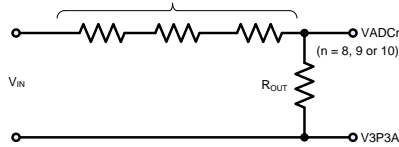
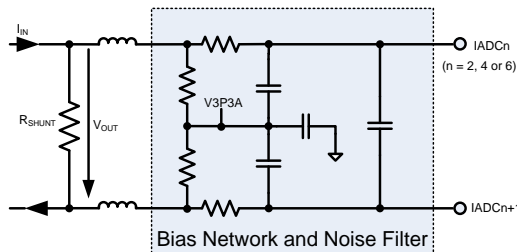
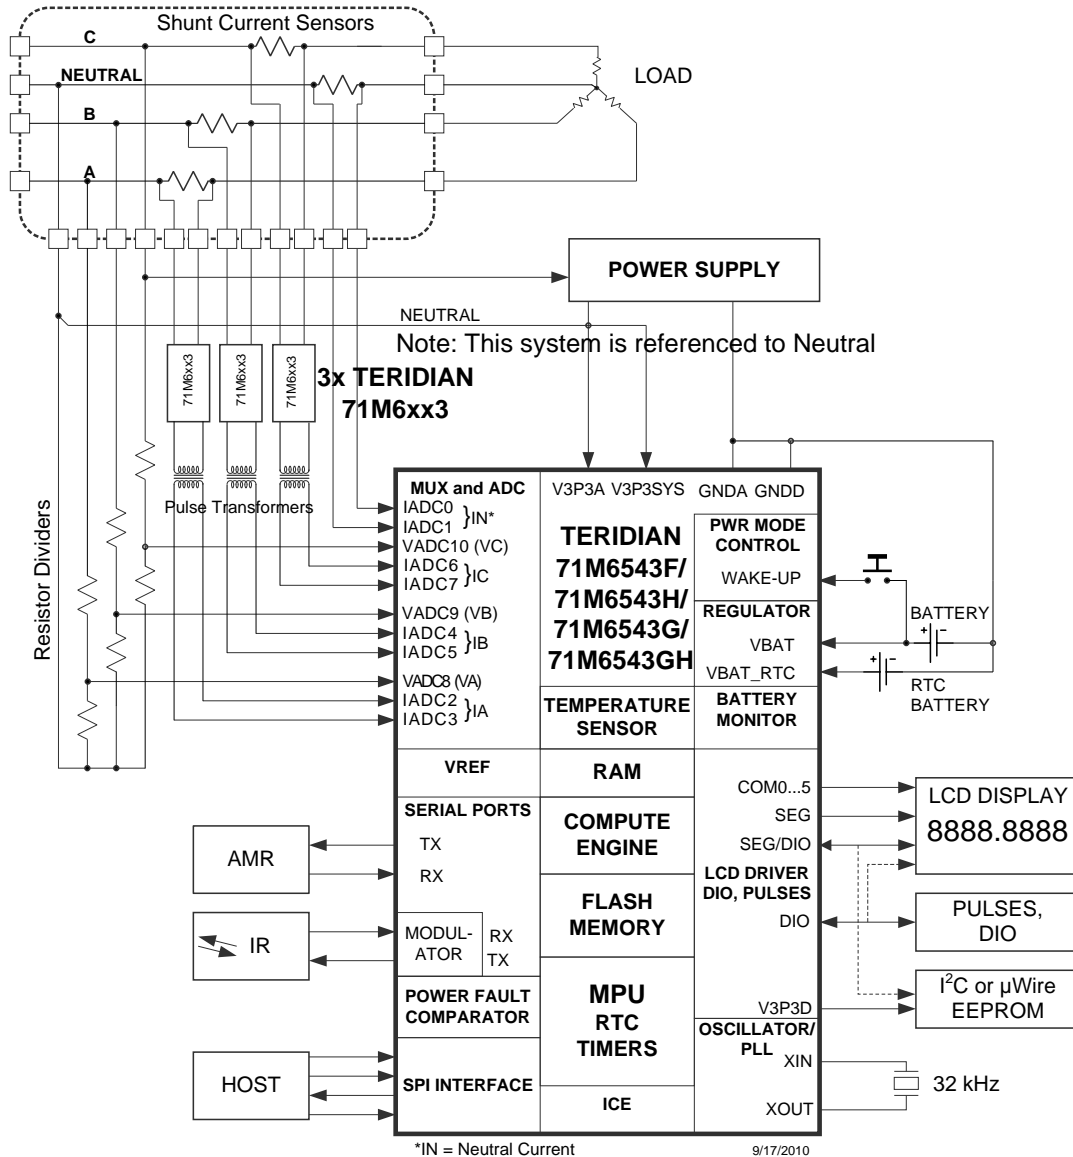
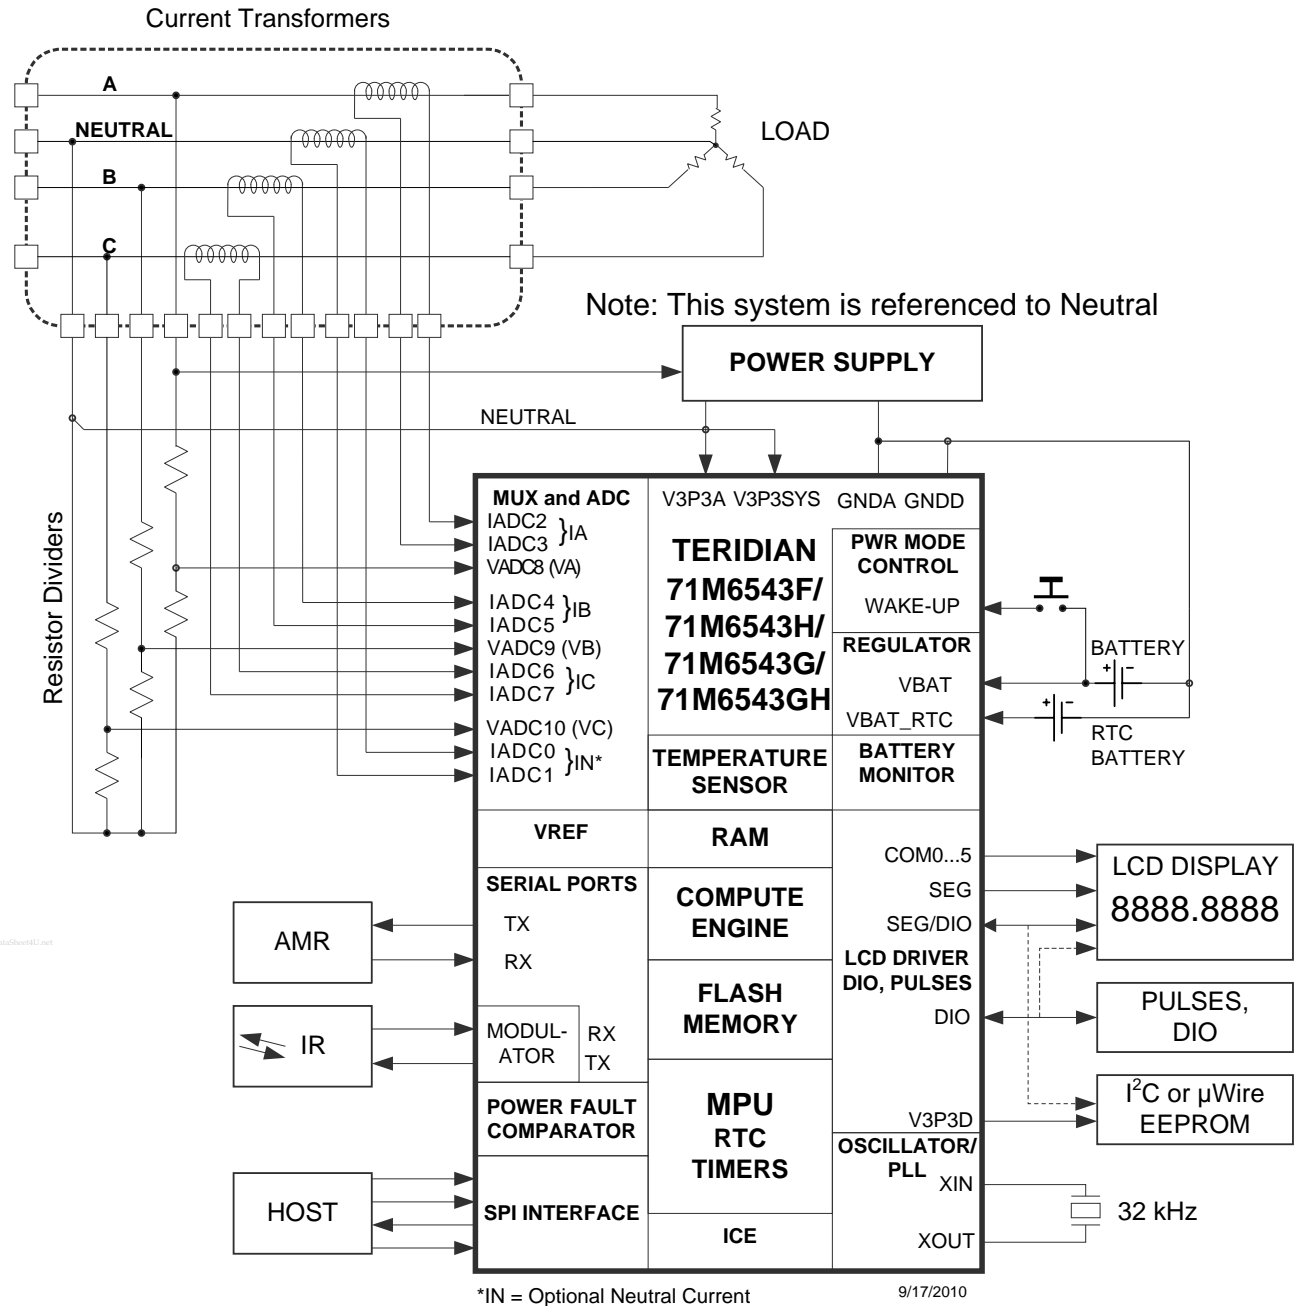

Figure 27: Resistive Voltage Divider (Voltage Sensing)
Figure 30: Differential Resistive Shunt Connections (Current Sensing)
Figure 31: System Using Three-Remotes and One-Local (Neutral) Sensor
Figure 32. System Using Current Transformers
Figure 27 through Figure 30 show voltage-sensing resistive dividers, current-sensing current transformers (CTs) and current-sensing resistive shunts and how they are connected to the voltage and current inputs of the 71M6543. All input signals to the 71M6543 sensor inputs are voltage signals providing a scaled representation of either a sensed voltage or current.
Figure 31 shows a typical connection for current shunt sensors; using the 71M6xx3 (polyphase) isolated sensors. Note that one shunt current sensor is connected without isolation, which is the neutral current sensor in this example (connected to pins IADC0-IADC1). Each 71M6xx3 device is electrically isolated by a low-cost pulse transformer. The 71M6543 current sensor inputs must be configured for remote sensor communications, as described in 2.2.8 71M6xx3 Isolated Sensor Interface (page 22). Flexible remapping using the I/O RAM registers $MUXn_SEL[3:0]$ allows the sequence of analog input pins to be different from the standard configuration (a corresponding CE code must be used). See Figure 2 for the AFE configuration corresponding to Figure 31.
Figure 32 shows a polyphase system using four current transformers to support optional Neutral current sensing for anti-tamper purposes. The Neutral current sensing CT can be omitted if Neutral current sensing is not required. The system is referenced to Neutral (i.e., the Neutral rail is tied to V3P3A and V3P3SYS).
This section discusses metrology temperature compensation for the meter designs where current shunt sensors are used in conjunction with Teridian's 71M6xx3 remote isolated sensors, as shown in Figure 31.
Referring to Figure 31, the VADC8 (VA), VADC9 (VB) and VADC10 (VC) voltage sensors are always directly connected to the 71M6543. Thus, the precision of the voltage sensors is primarily affected by VREF in the 71M6543. The temperature coefficient of the resistors used to implement the voltage dividers for the voltage sensors (see Figure 27) determine the behavior of the voltage division ratio with respect to temperature. It is recommended to use resistors with low temperature coefficients, while forming the entire voltage divider using resistors belonging to the same technology family, in order to minimize the temperature dependency of the voltage division ratio. The resistors must also have suitable voltage ratings.
Table 67 shows the five $GAIN_ADJ_x$ equation output storage locations and the voltage or current sensor channels for which they compensate for the 1 Local / 3 Remote configuration shown in Figure 31.
Table 67: GAIN_ADJn Compensation Channels (Figure 2, Figure 31, Table 1)
This section discusses metrology temperature compensation for meter designs where Current Transformer (CT) sensors are used, as shown in Figure 32.
Referring to Figure 32, the VADC8 (VA), VADC9 (VB) and VADC10 (VC) voltage sensors are directly connected to the 71M6543. Thus, the precision of the voltage sensors is primarily affected by VREF in the 71M6543. The temperature coefficient of the resistors used to implement the voltage dividers for the voltage sensors (see Figure 27) determine the behavior of the voltage division ratio with respect to temperature. It is recommended to use resistors with low temperature coefficients, while forming the entire voltage divider using resistors belonging to the same technology family, in order to minimize the temperature dependency of the voltage division ratio. The resistors must also have suitable voltage ratings.
Table 68: GAIN_ADJx Compensation Channels (Figure 3, Figure 32, Table 2)